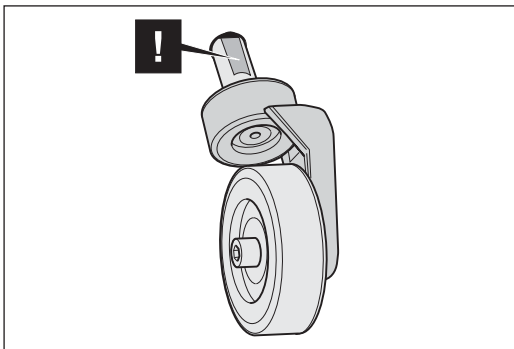

Fig. 56 When mounting the complete rear wheel, align the tensioning surface of the tail axle towards the screw in the machine housing.
- 11** Mount the complete rear wheel in reverse sequence and fasten it again in the machine housing, aligning the tensioning surface of the tail axle (Fig. 56) towards the screw in the machine housing.